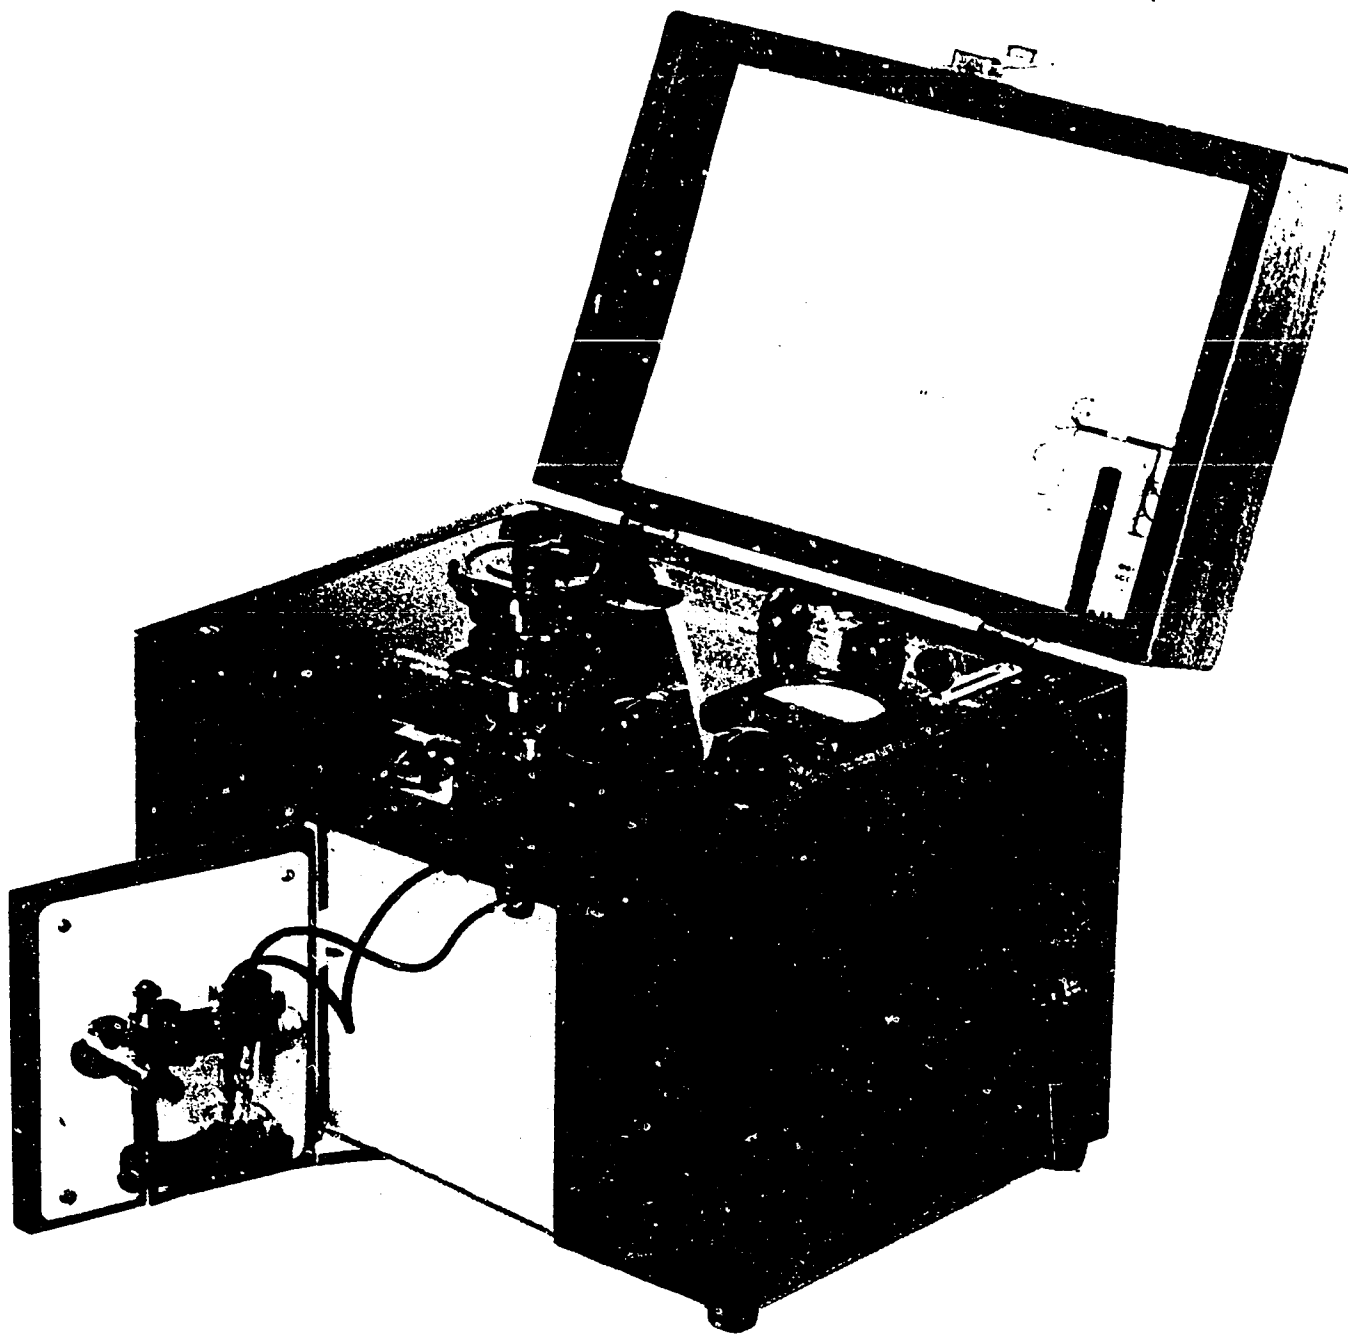
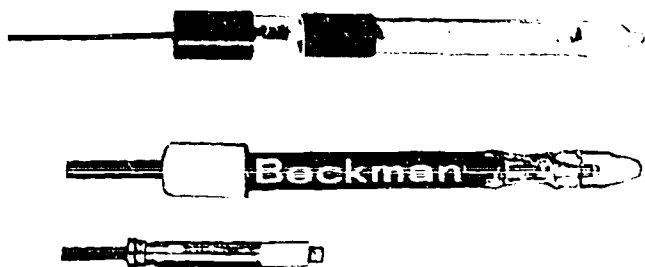

Figure 1-3. A laboratory pH meter.
Figure 1-4. A pH meter electrodes.
The Laboratory pH Meter. This instrument (fig. 1-3) is a portable, battery-powered, precision pH meter having sufficient accuracy for most applications in imagery production laboratories. This particular model of pH meter operates within the pH range of 0 to 13 pH, and within the millivolt range of 0 to $\pm 1,300$ mv. It is a direct-reading, null-balance instrument that is readable to 0.01 pH units and 1 mv. This instrument has a relative accuracy of ± 0.02 pH and a repeatability within ± 0.01 pH. Manually, the temperature can be compensated between 10° and 40°C. Power for operating this pH meter is provided by internal batteries. The dimensions of this instrument are: height, 11 inches; width, 11½ inches; depth, 9 inches; weight, approximately 20 pounds. The instrument is encased in a wood-grained, acid- and alkali-resistant, plastic-covered hardwood box. This box has a hinged cover provided with a
The miniature electrodes, shown in the open door in figure 1-3, are standard equipment with this pH meter, but it can accommodate the large electrodes (fig. 1-4). The miniature electrodes are mounted inside the door of an electrostatically shielded compartment. The 5-inch electrodes require adapter plugs for connecting them to the instrument and a stand with clamps for external use.
2. What is the normal pH and millivolt range of the model represented in figure 1-3?
Operator Maintenance. All pH meters, like many of the units used in imagery production units, are carefully built and calibrated at the factory. The units shown in figures 1-3 and 1-5 are also aged at the factory and require careful handling in the laboratory. Avoid dropping or jarring these instruments since sharp blows may damage their meters and cause electronic failure. Cover the instrument with its plastic cover whenever it is not being used.
Like many fine, precision instruments, the pH meter (fig. 1-3) must be aligned to a standard reference (standardized) in order for you to obtain accurate measurements. This